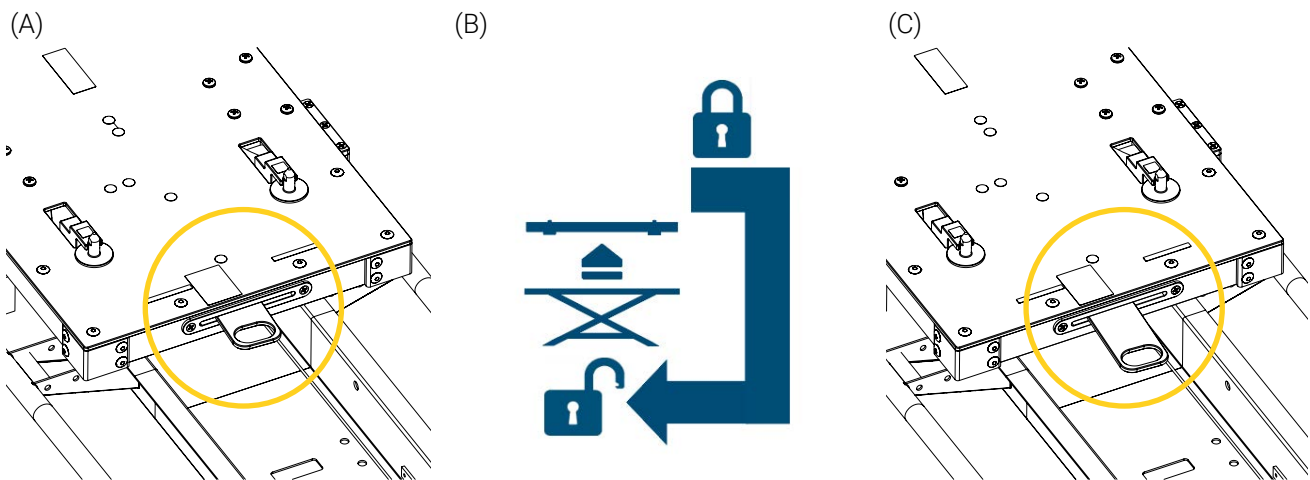

Figure 9: Unlocking the Neonatal Transport Incubator Platform - Patient foot end
2. At patient foot end, locate the Neonatal Transport Incubator Platform lock/unlock quick release latch. It should be retracted towards patient right in the locked position (Figure 9 A).
3. Move the quick release latch towards patient left, pull out the latch, then move it towards patient right (Figure 9 B) to unlock the mounting solution from the stretcher (Figure 9 C).